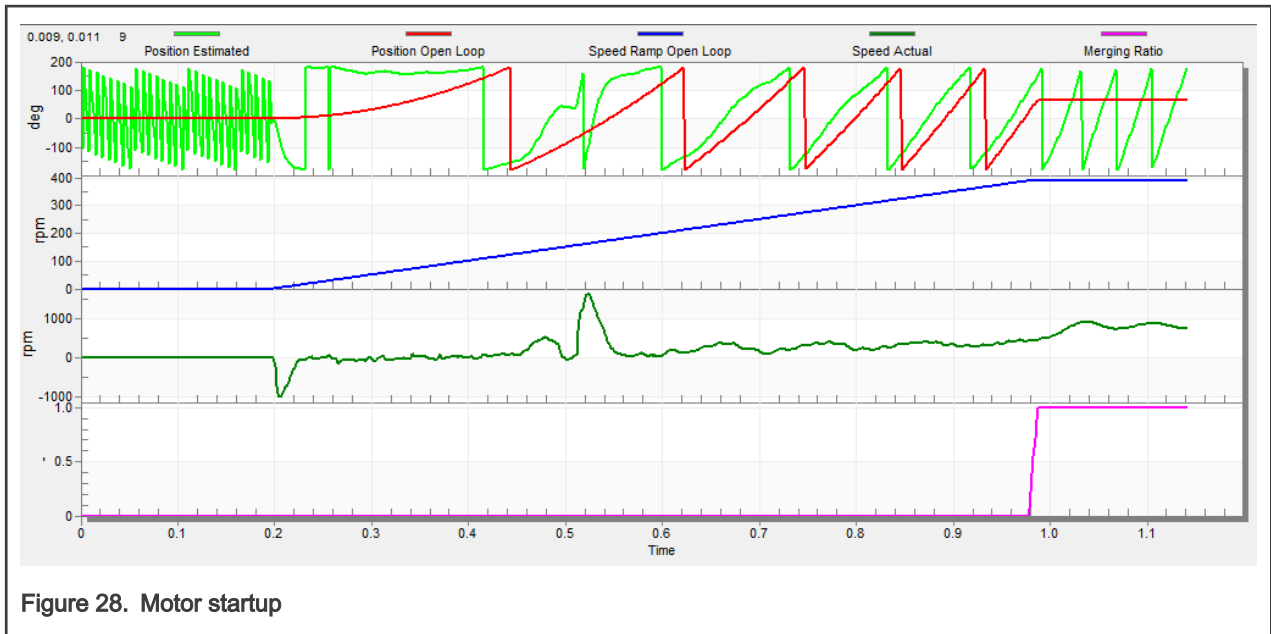

Figure 28. Motor startup
1. The start-up process can be tuned by a set of parameters located in the “Sensorless” tab. Two of them (ramp increment and current) are accessible in both tuning modes. The start-up tuning can be processed in all control modes besides the scalar control. Setting the optimal values results in a proper motor startup. An example start-up state of low-dynamic drives (fans, pumps) is shown in Figure 28.